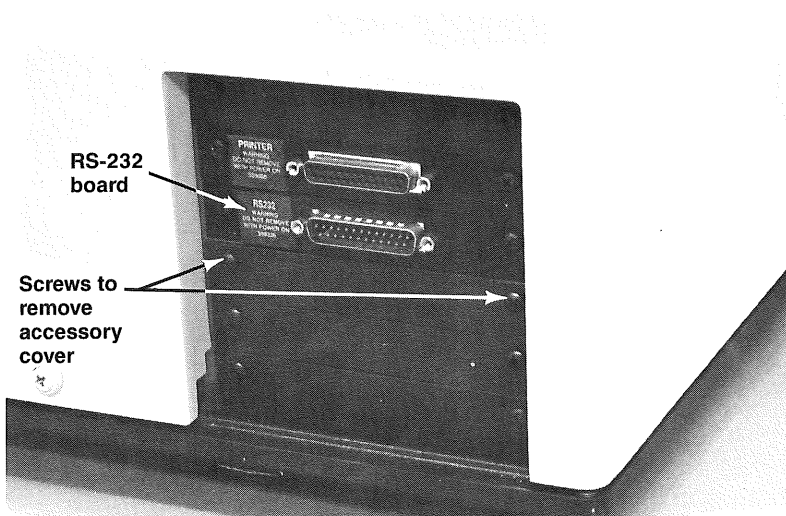

Figure 2.
2. Check the accessory slots on the left-hand side of the instrument to see if a board labelled "RS-232" is installed. See Figure 2. If it is installed, go to step 7.
4. Remove one of the accessory covers using a Phillips screwdriver. Save the two screws. See Figure 2.